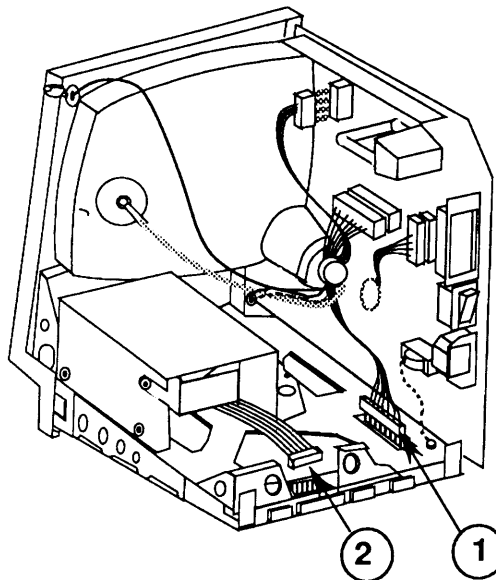

FIGURE 8
2. Remove the main logic cable (Figure 8, #1) and the disk drive cable (Figure 8, #2) from the logic board.